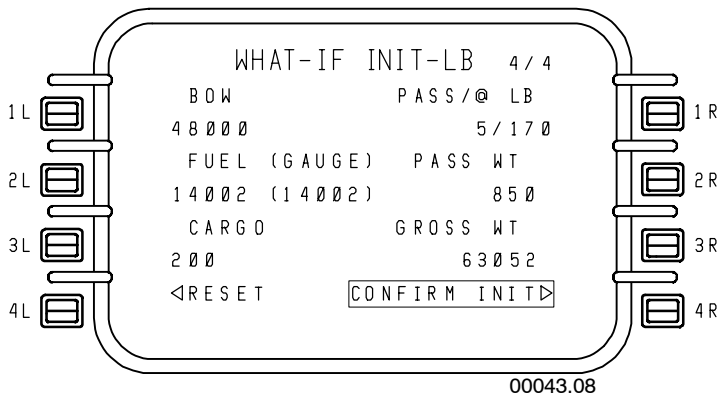

Figure 5-39
- **When all required changes to WHAT-IF INIT have been made, the CONFIRM INIT prompt on page 4 must be selected to start calculations. This is shown in Figure 5-39.**